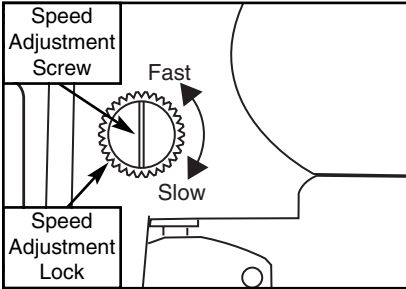

Figure 5. H5627 speed adjustment screw.
3. Rotate the speed adjustment screw counter clockwise to increase the firing speed or clockwise to slow the firing speed (**Figure 5**).